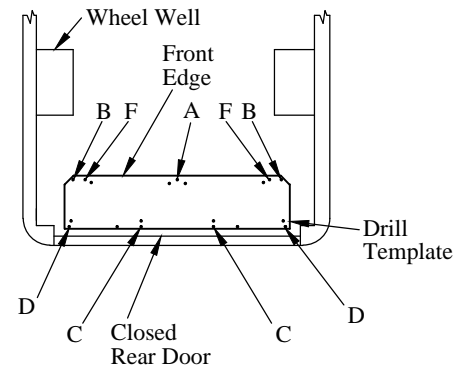

Figure 6: Drilling location (top view).
14. Drill 3/8" holes in nine (9) locations in the template. Drill "A", "B", "C", "D", and "F" locations only, skip all others (Figure 6).